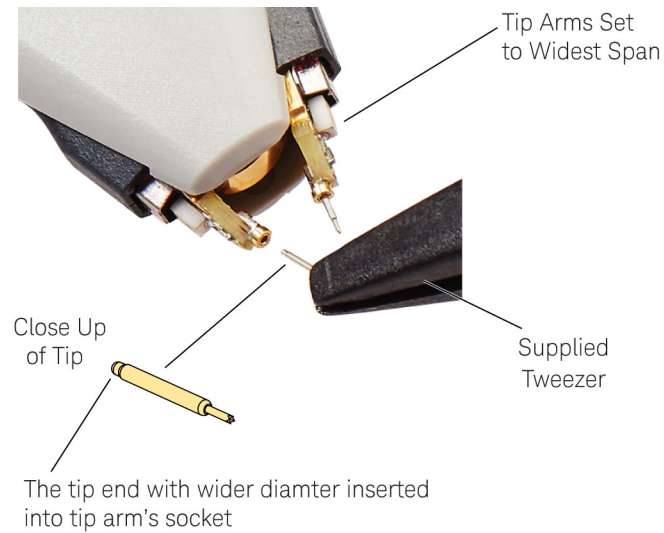

Figure 41 Inserting a Tip
- 3 Pick up a new tip using the supplied tweezers. Identify the correct end to insert into the probe tip arm as shown in **Figure 41**. The end of the tip that has the wider diameter is inserted into the tip arm.